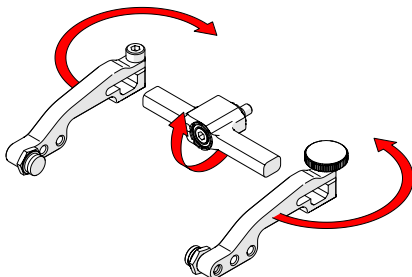

Fig. 53 - Flip yoke and reverse arms
3. Flip the yoke 180° and reverse the probe holder arms (Fig. 53).